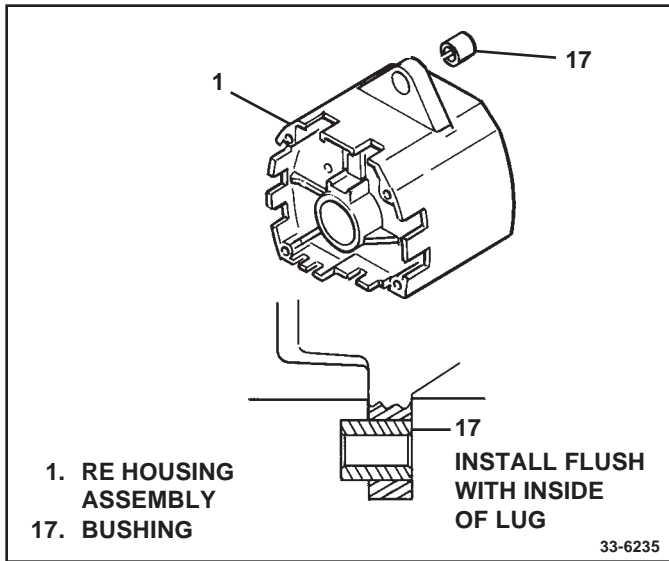

Figure 27. Installing Mounting Hinge Bushing
5. Lightly lubricate outside surface of hinge bushing (17). Press hinge bushing into hole in lug on rectifier end housing (1). Install bushing flush with inside of lug to allow maximum distance between two hinge lugs for mounting. Final position of hinge bushing will be adjusted during mounting. (See Fig. 27)